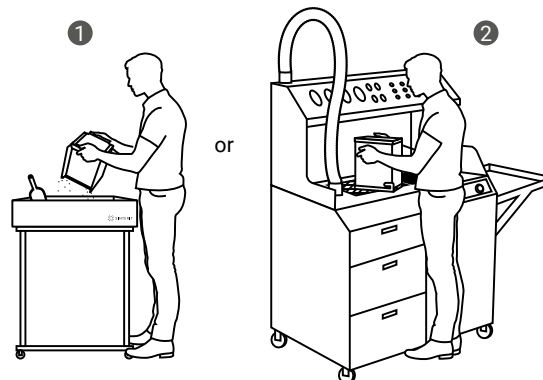

Fig. 8.5. Moving the IO BOX to the foldable tray **1** or to the PHS worktop **2** to clean the printout.
10. Carry the IO BOX and its contents onto the foldable tray **1** or on the PHS worktop **2** (fig. 8.5) then press **DONE** on the screen.
12. Carry the IO BOX and its contents onto the foldable tray **1** or on the PHS worktop **2** (fig. 8.5) then press **DONE** on the screen.